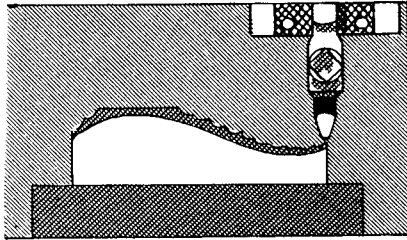

FIG. 513
1. Take a semifinish cut starting at the right of the curve (Fig. 513).